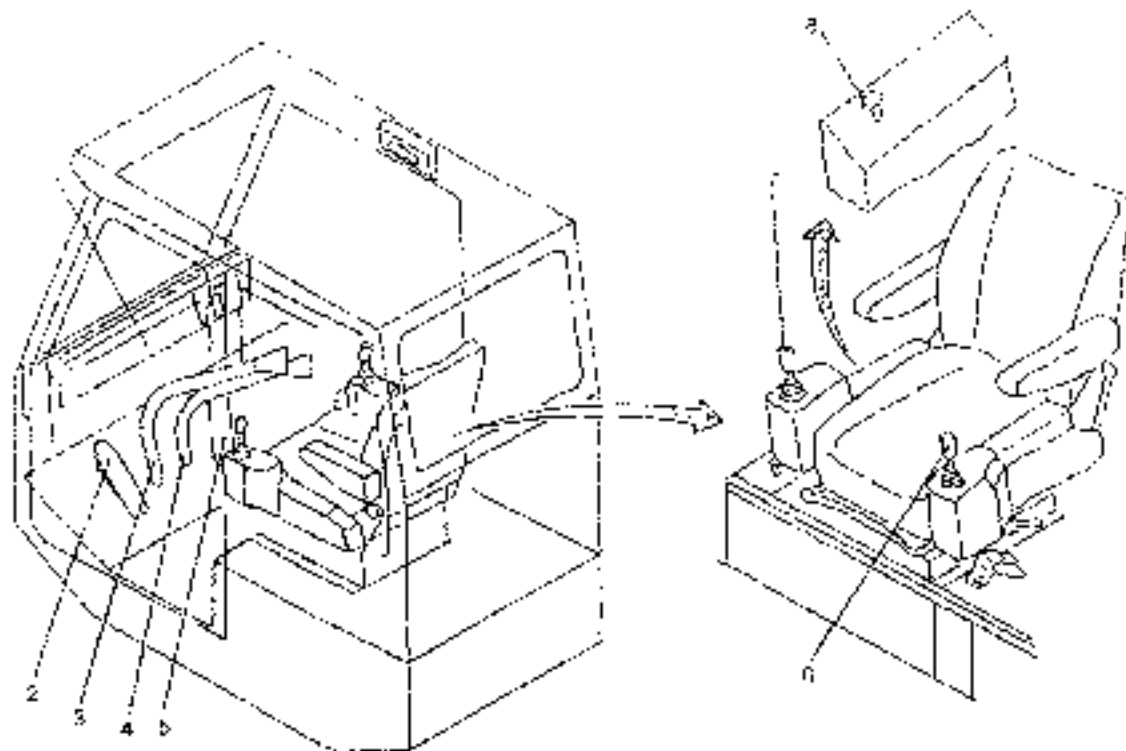

Fig. 3 Crane Operation Controls
- b. Push forward the left control lever for traveling (see No. 3 in Fig. 3).
- 1). Main winch: hoist up by pulling the No.7 handle in Fig. 3 backward, and hoist down by pushing it forward.
- 2). Auxiliary winch: hoists up by pulling the No.6 handle in Fig. 3 backward, and hoist down by pushing it forward.
- 1). Pull the No. 8 handle in Fig. 3 upward to release the ratchet locking of elevating drum.
- 2). Turn the No.7 handle in Fig. 3 left to raise up the boom, turn it right to lower down the boom
Note: before elevating boom, make sure to release the ratchet locking of elevating drum. If the ratchet sticks the drum, turn left the No. 7 handle in Fig. 3
- 2). Turn the No. 6 handle in Fig. 3 left for left swing, turn it right for right swing.
- 1). Push the No. 3 lever in Fig. 3 forward for left crawler moving forward; pull it backward for left crawler moving backward.
- 2). Push the No. 4 lever in Fig. 3 forward for right crawler moving forward; pull it backward for right crawler moving backward.